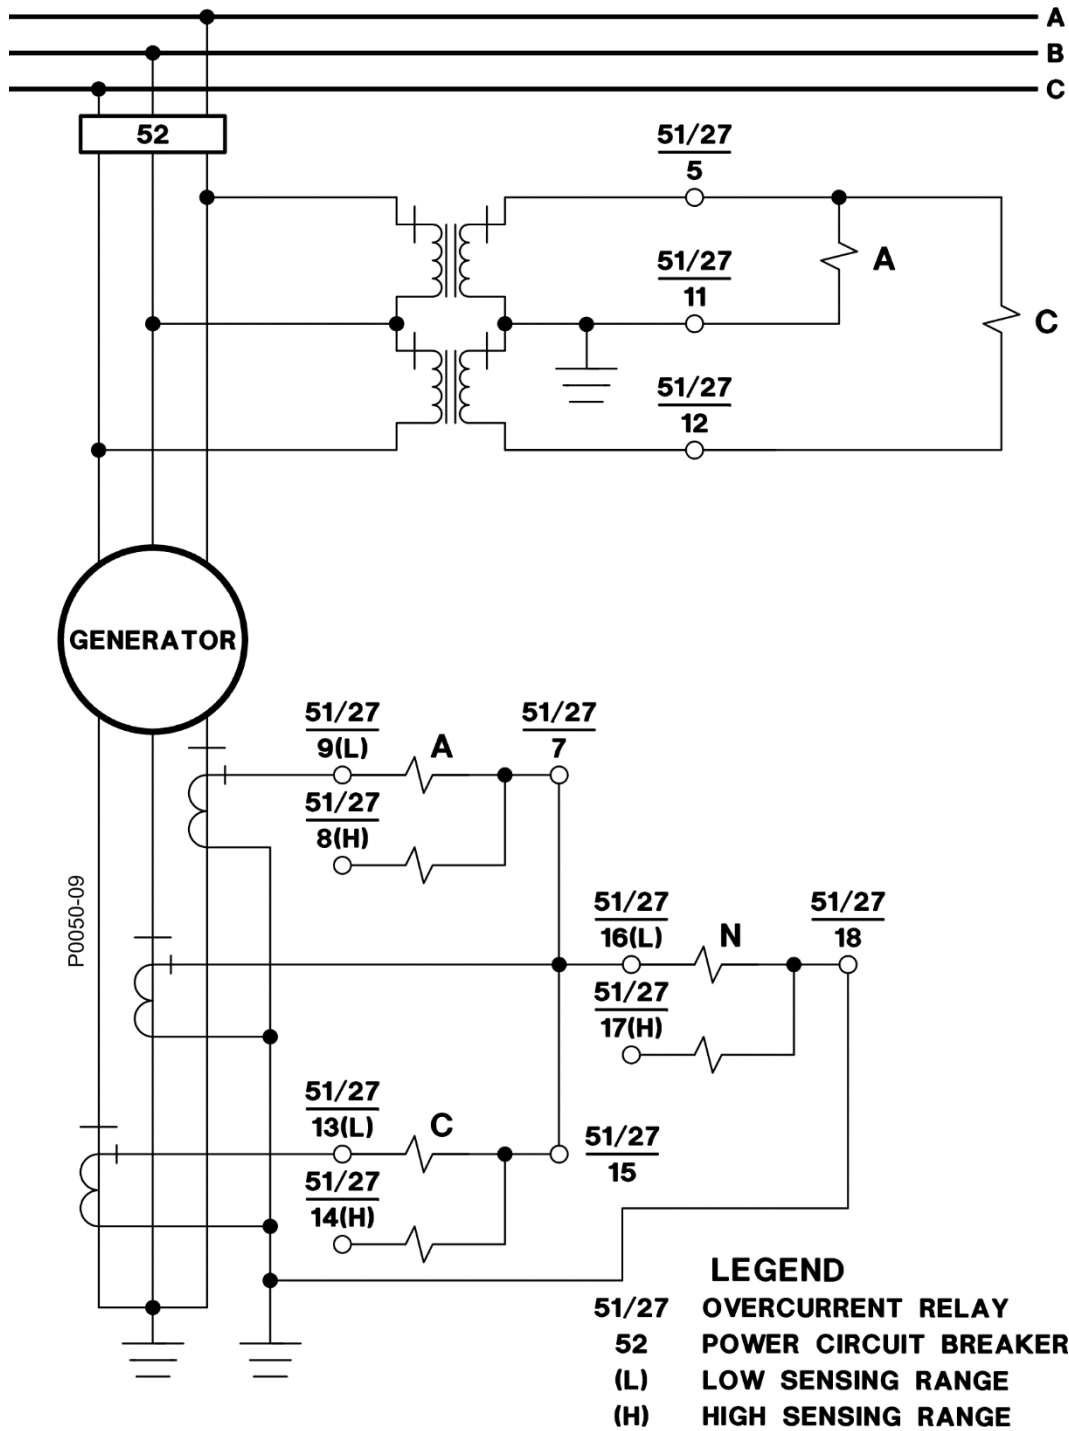

Figure 4-19. Typical Sensing External Connections, Sensing Input Type Y or Z
- Figure 4-19: Typical Sensing External Connections, Sensing Input Type Y or Z